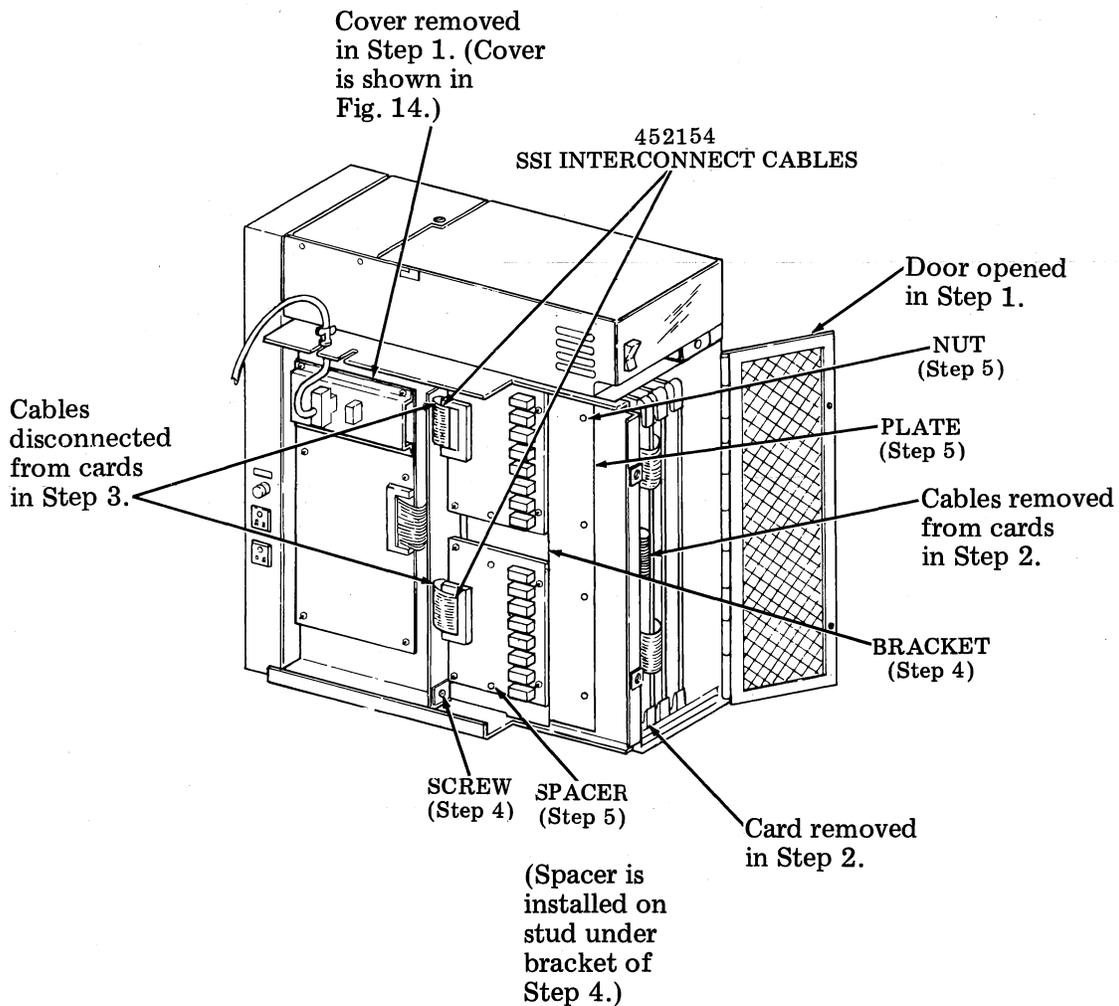

Fig. 109
1	Turn off all power. Remove controller cabinet front panel. Remove controller to maintenance position. Loosen two captive 1/4-turn screws and remove left-side cover from controller. Loosen two captive 1/4-turn screws and open controller door. See Fig. 109.
- The 452244 plate (Fig. 109) will be installed.
- The 452243 plate will be installed in the position of the lower 410319 of Fig. 109.